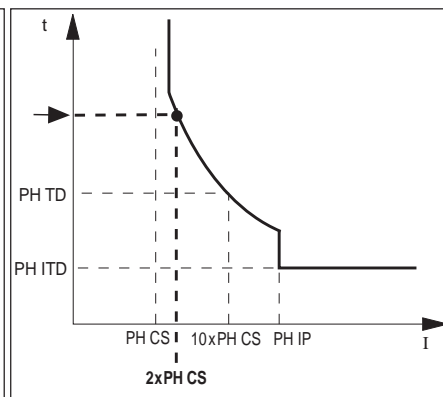

Figure 66: Curve type check (2 x PH CS)
**Curve Type Check (2 x “PH CS”)** Measure the tripping time for the current that corresponds to 2 x “PH CS” (figure 66). Expected accuracy:  $\pm 12.5\%$ .